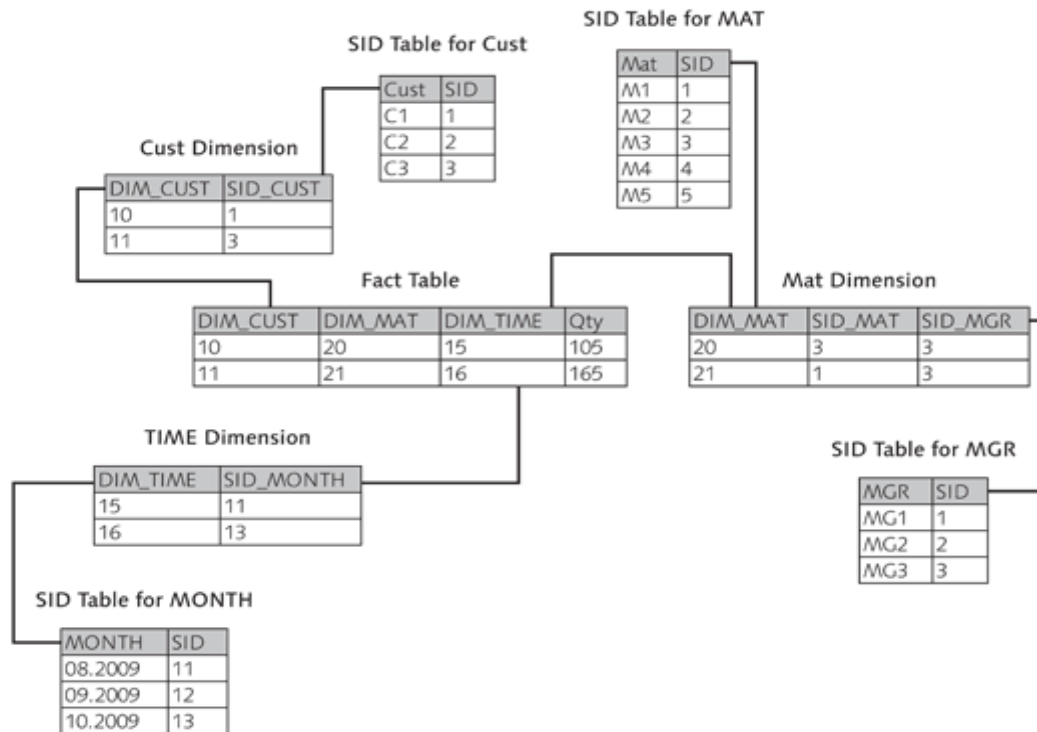

Figure 5.6 Extended Star Schema: Relation Between DIMs and SIDs
- ▶ The customer master data is loaded to the customer InfoObject, and the SIDs for the three customers (C1, C2, and C3) are 1, 2, and 3, respectively. This is shown in the SID table for CUST in Figure 5.6.
- ▶ The material master data is loaded to the material InfoObject, and the SIDs for the five materials (M1, M2, M3, M4, and M5) are 1, 2, 3, 4, and 5, respectively. This is shown in the SID table for MAT in Figure 5.6.
- ▶ The material group master data is loaded to the material group InfoObject, and the SIDs for the three material groups (MG1, MG2, and MG3) are 1, 2, and 3, respectively. This is shown in the SID table for MGR in Figure 5.6.
- ▶ The time granularity for this InfoCube is *month*. The time master data is generated by the system, and SIDs for all of the MONTH values are generated and available. The SIDs for the three month values (08.2009, 09.2009, and 10.2009) are 11, 12, and 13, respectively. This is shown in the SID table for MONTH in Figure 5.6. (For high-level analysis, you can also assign the quarter and year characteristics to the Time dimension. These are derived directly from the Month characteristic.)
When this data is loaded, it's stored in the InfoCube model as shown in Figure 5.6. Again, dimension tables save the data of the characteristics values shown in Table 5.1, but instead of storing the actual characteristic values, it stores the SID values. For example, the first record in the transaction data has the customer value listed as C1, but the dimension table stores the SID. Because only one characteristic is assigned to the CUST dimension, for each unique value of the customer SID, the system creates a DIM ID for it in the dimension table. In Figure 5.6, DIM_ID 10 is generated for SID_CUST = 1. The key of the Customer dimension table is DIM_CUST.
Finally, the fact table stores key figures associated with the InfoCube. For this example, the values for the Quantity key figure (Qty in Figure 5.6) is stored in the fact table, along with the DIM_IDs from all of the dimensions.